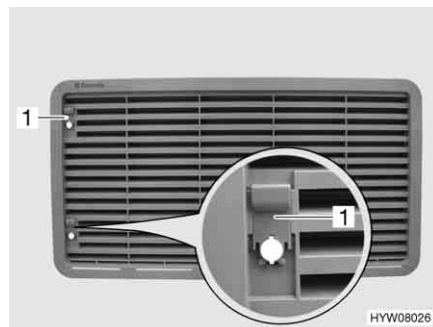

Fig. 190 Refrigerator ventilation grill (with sliding trap)
- Push sliding trap (Fig. 190,1) upward.